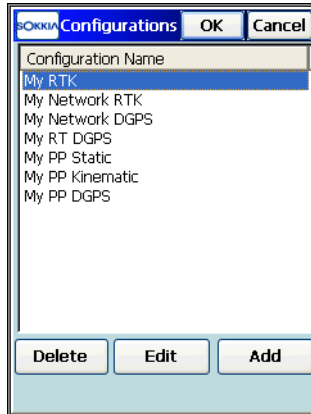

Figure 4-4. Create/Edit a Configuration
The *Configurations* screen contains a list of available GPS+ configurations (Figure 4-4). Either edit an existing configuration or create a new configuration.
1. To create a new configuration, tap the **Add** button (Figure 4-4).